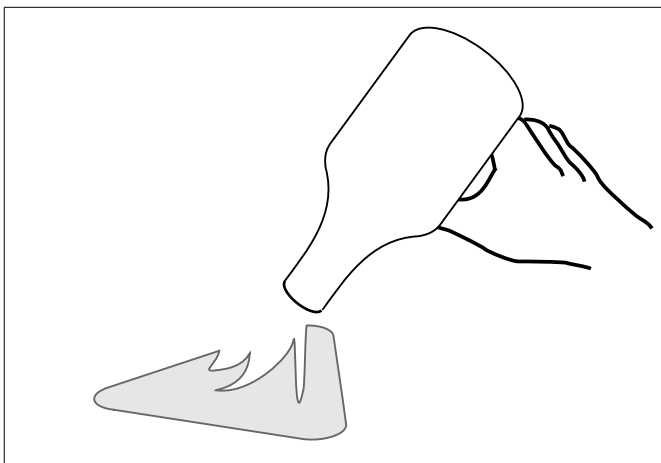

fig. 2 Heating the surface
2. Heat the cleaned surface to a temperature of 40°C; see fig. 2.